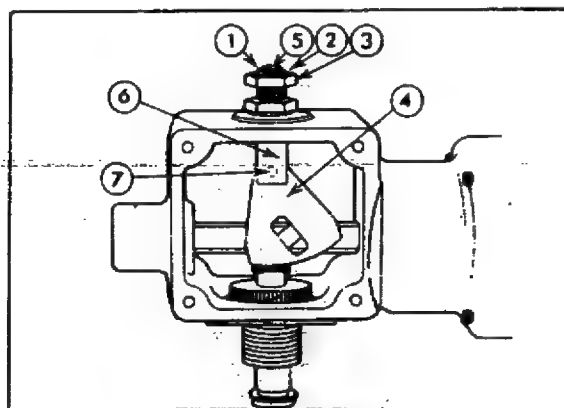

Fig. 58 Removing Cam Assembly
4. Remove the 'E' clip Fig. 58, and bowed washer. Remove the adjusting screw and lift out the cam and clevis pin from housing. Remove the pin retainer and push out pin to remove the cam.